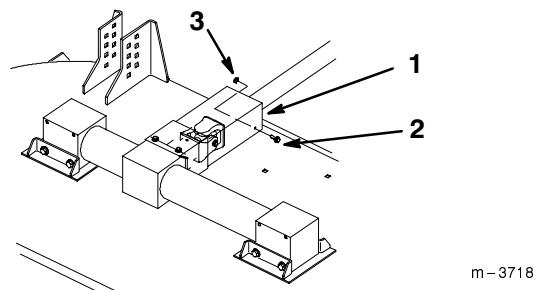

Figure 21
2. Remove 5/16-18 x 7/8" (11 mm) shoulder bolt and 5/16" flange nut holding PTO cover down (Fig. 21).
3. Secure PTO cover down with 5/16-18 x 7/8" (11 mm) shoulder bolt and 5/16" flange nut (Fig. 21).